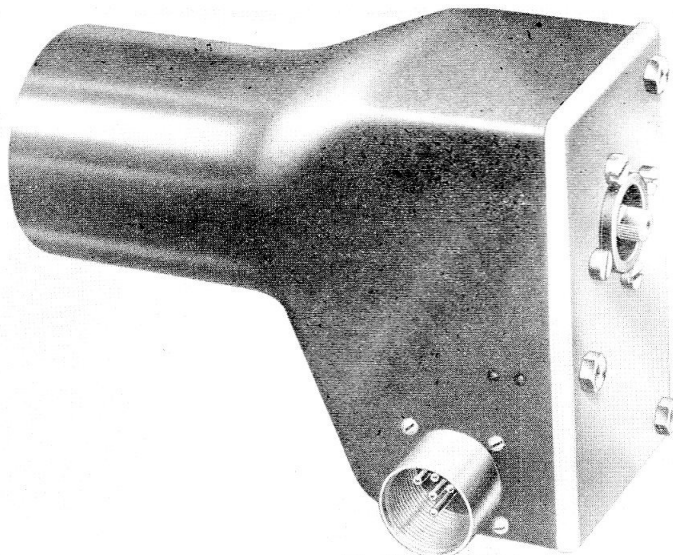

Fig. 1. Type C5513/2 actuator
1. This actuator (*fig. 1*) is generally similar to that described in the main chapter, but is complete encased within an outer flame-proof metal casing (consisting of a main case screwed to a front cover plate), with only the output shaft and mounting spigot protruding. The complete actuator is removable from the case as a unit.